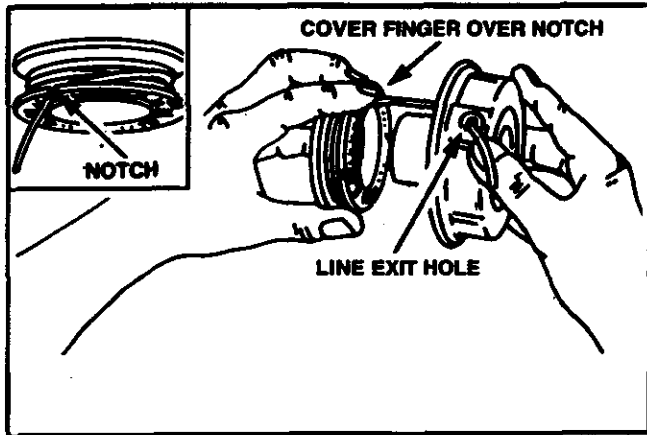

Figure 23
- Insert line into line exit hole in the hub as shown. Figure 23.